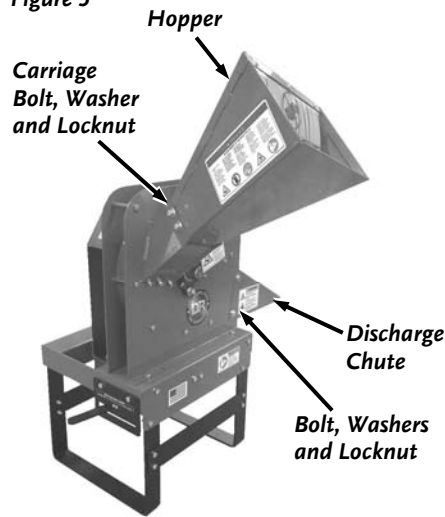

Figure 6
4. Position the Discharge Chute on the side of the chipper and secure with two Bolts, four Washers (one on each side), and two Locknuts using two 1/2" wrenches (**Figure 6**).